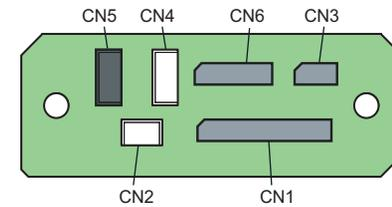

Figure 4-112. Connector Layout of the BOARD ASSY., SUB
- Connect the FFCs to their correct positions matching the numbers written on the FFCs with those printed on the board as shown in *Figure 4-112* and *Table 4-6*.